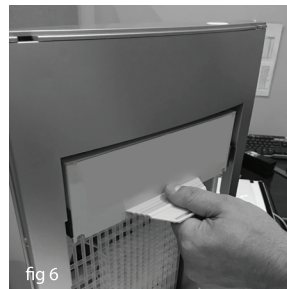
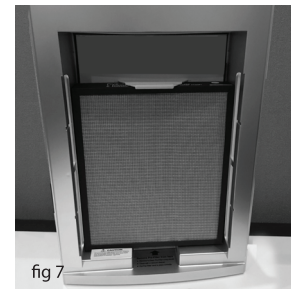

fig 6
fig 7
- Slide the new main filter into place. (fig 6) Secure the main filter with the two screws. (fig 7)
- Reinstall the 6-stage prefilter and the front cover. (fig 7)